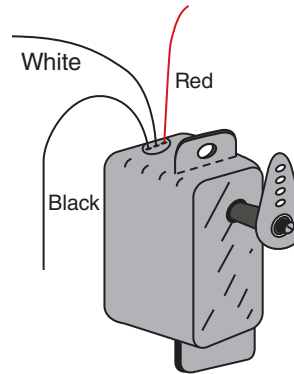

Fig. 5-35 Art for self-test questions 69, 70 and 71.
69. Refer to Fig. 5-35. This device, which might be found in a radio-controlled airplane or car, is called a _____ (servo motor, stepper motor).
70. Refer to Fig. 5-35. The red lead is connected to + of the power supply, the black lead to ground, and the white lead to the servo is the _____ (input, output) lead.
71. Refer to Fig. 5-35. This hobby servo motor is controlled by inputs from a pulse generator using _____ (pulse-amplitude, pulse-width) modulation.